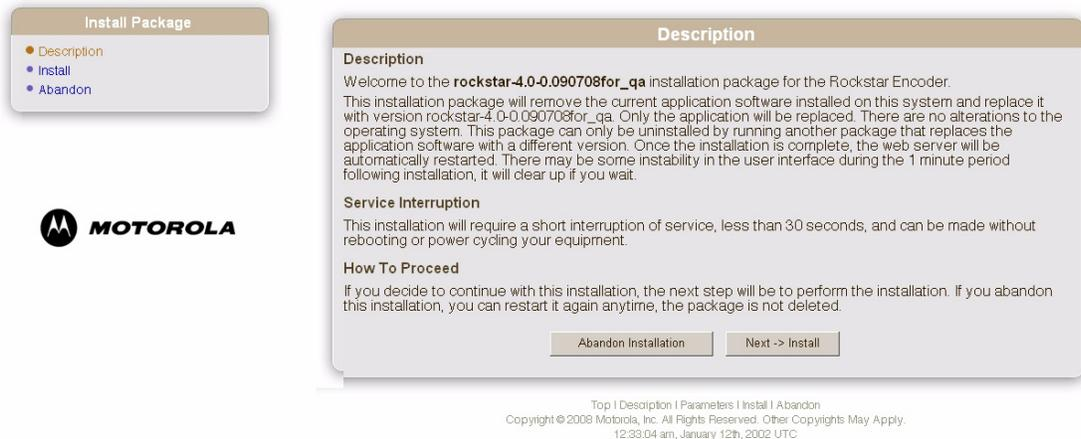

Figure 62: Description Page
6. The Description Page is displayed, as shown in Figure 62.